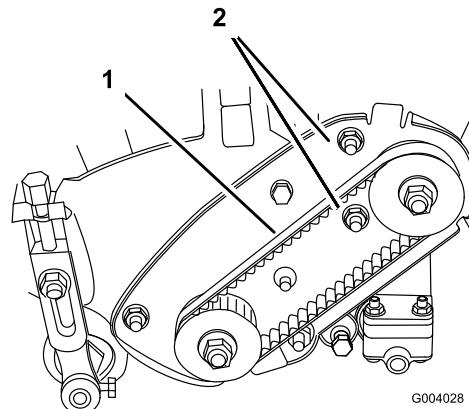

Figure 35
- A. Loosen the bearing housing mounting nuts (Figure 35).
- C. While holding the torque wrench setting, tighten the bearing housing mounting nuts (Figure 35). Do not over-tension belt.